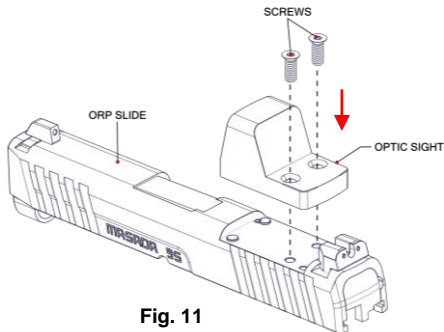

Fig. 11
2. To assemble place the optic sight. Align their bolt holes (Fig. 11).
**(NOTE:** It is recommended that you wait at least 24 hours after applying the Loctite on the screws before firing the pistol). (Fig. 11).